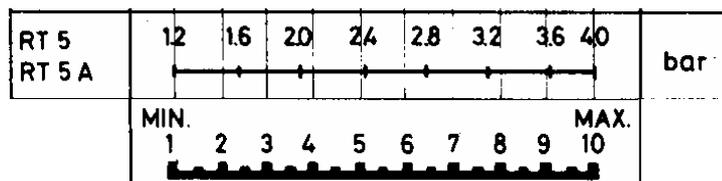

Fig. 4
- a) Turn the knob (1) until the scale indicator (2) reaches the pressure at which the burner shall restart;
- a) Remove the cover of the pressure switch and position the drum (3) at the value selected for the pressure differential (stopping the burner) as to the diagram Fig. 4.